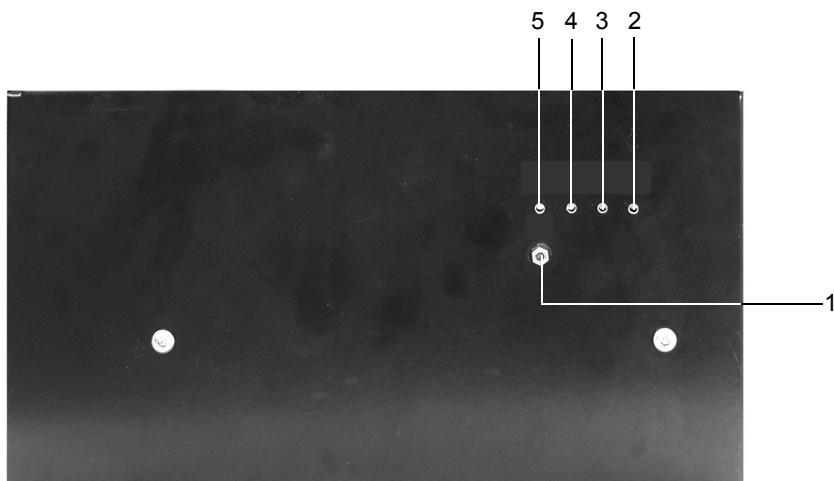

Fig. 28: Status LEDs
| Red, flashing | Temperature has been critical, but has cooled down by now. | Find out the cause for the temperature increase and rectify. Acknowledge that the illumination module is OK by pressing the status reset button (Fig. 28 (1)). |
3. You have to press the reset button ((3) in Fig. 28 on page 60) on the rear side of the illumination module, before you can restart it.